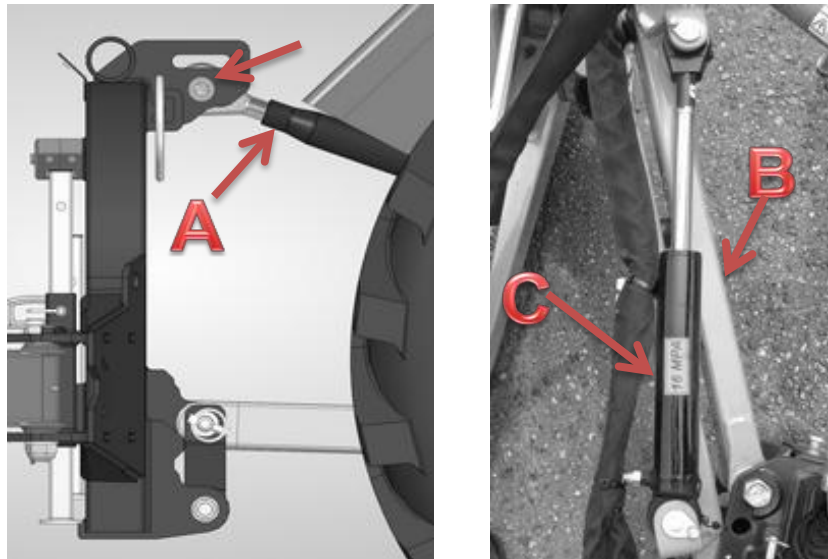

Figure 7. Adjustment of arms and suspension for transport
- Place the central coupling pin (A) in the transport hole shown in Figure 7. Position the arms (B) so that they rest against each other. To do this, the arm cylinder (C) must be fully extended.